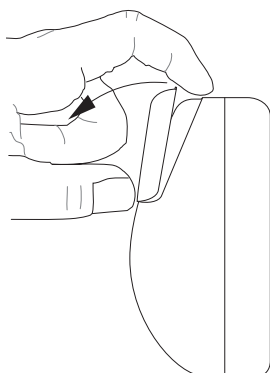

Figure 4. Removing the Small Cover
1. Remove the small cover (see Figure 4)
1. Remove the sensor cover (see Figures 4 and 5) and set it aside.